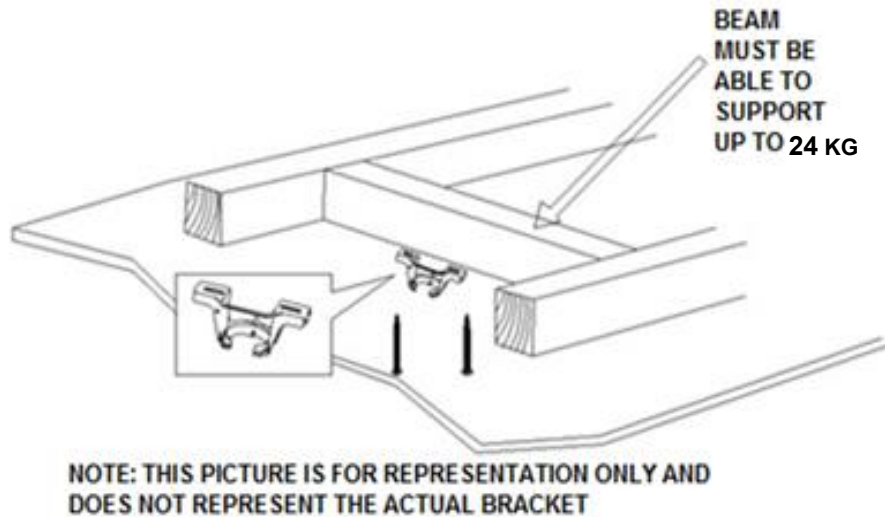

Fig. 2
- Install the hanging bracket to the ceiling joist or structure that is capable of carrying a load of at least 24kg, with two long screws provided. Ensure at least 30mm of the screw is threaded into the support. (Fig. 2)